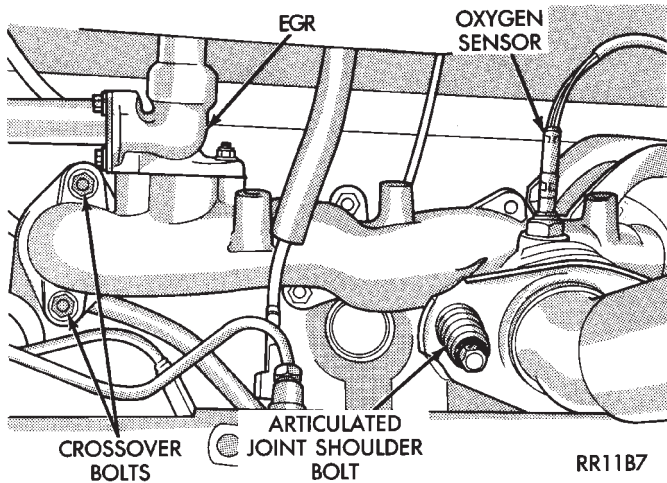
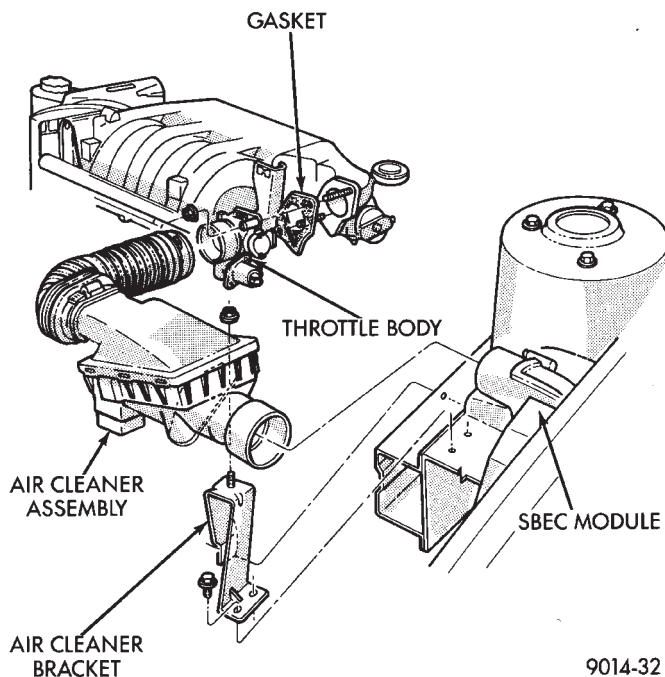

Fig. 18 Separate Articulated Joint, Disconnect Oxygen Sensor Wire
Fig. 2 Throttle Body Assembly—3.3/3.8L Engines
(1) Raise vehicle and disconnect exhaust pipe from rear (cowl side) exhaust manifold at articulated joint.
(2) Disconnect Oxygen Sensor lead wire at the rear exhaust manifold (Fig. 18).
- (1) Install rear exhaust manifold and tighten attaching nuts to 20 N•m (175 in. lbs.).
- (2) Attach exhaust pipe to exhaust manifold and tighten shoulder bolt to 28 N•m (250 in. lbs.).
- (3) Attach crossover pipe to exhaust manifold and tighten bolt to 69 N•m (51 ft. lbs.).
- (4) Connect heated oxygen sensor lead (Fig. 18).
- (5) Install front exhaust manifold and attach exhaust crossover.
- (6) Install front manifold heat shield and tighten attaching screws to 15 N•m (130 in. lbs.) (Fig. 2).
(3) Remove air cleaner to throttle body hose assembly (Fig. 2).